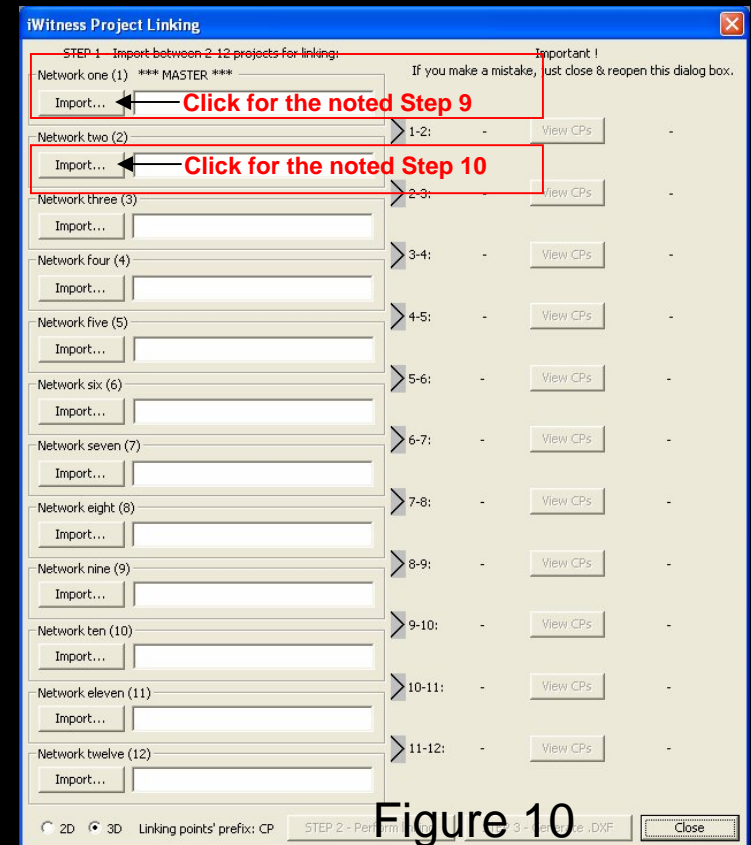

Figure 10
The Project Linking dialog is now displayed - see Figure 10.
9. **Click the Import...** button as indicated in Figure 10.
10. **Click the Import...** button as indicated in Figure 10.